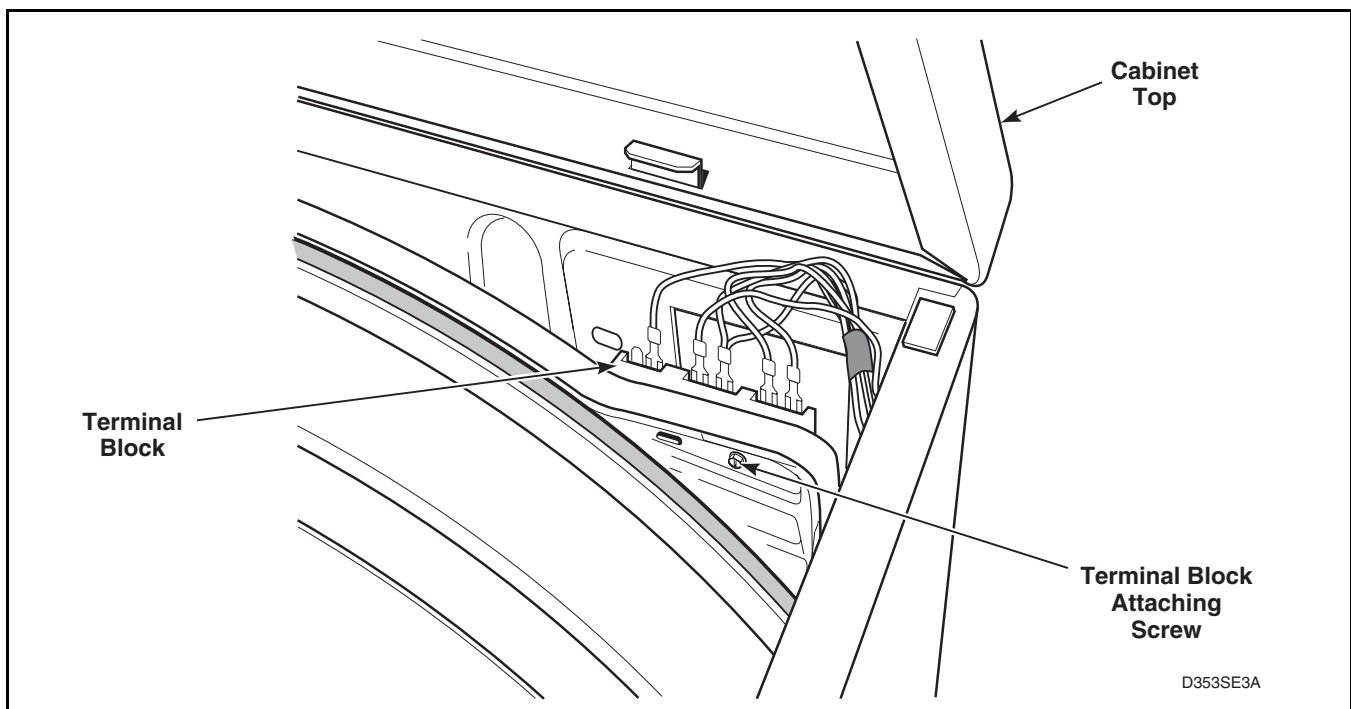

Figure 56
- (2) Remove all wires from terminal block. (Refer to appropriate wiring diagram when rewiring terminal block.)
- (3) Remove screw holding terminal block to rear bulkhead. Refer to *Figure 56*.
- (8) Remove screw holding terminal block to rear bulkhead. Refer to *Figure 56*.